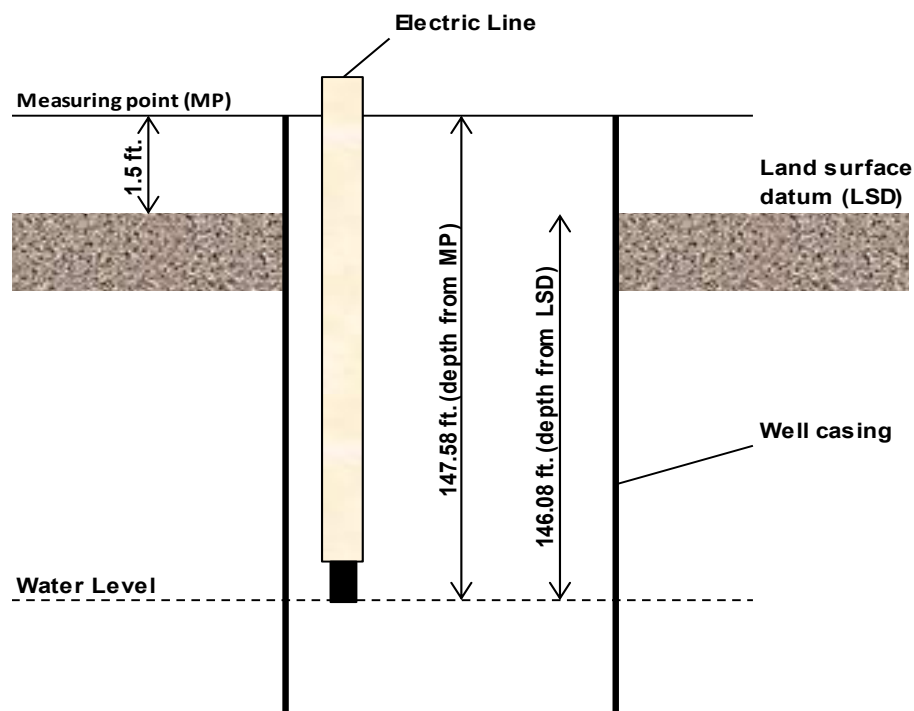

Figure 2. Electric Tape/Line (E-line) method of measurement for groundwater levels (not to scale).
- 4) Approach the measuring point (MP) and unlock the reel.
- 14) For example (see Figure 2), if the depth to water from MP is 147.58 and the MP is +1.5, the calculation is $147.58 - (+1.5) = 146.08$. The result, 146.08 feet, is the depth to water from land surface.